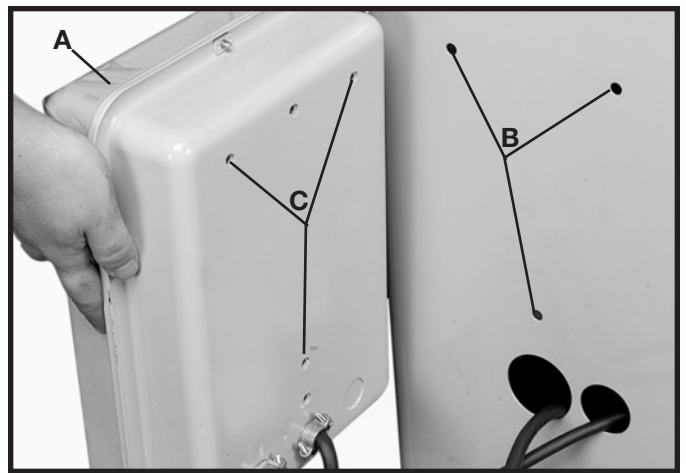

Fig. 7
If you purchased the machine with magnetic push button electrical controls, the saw is shipped with the starter box completely wired to the switch and motor. However, the starter box must be mounted to the saw cabinet. To assemble the starter box (A) Fig. 7, to the saw cabinet, proceed as follows:
1. Place a 1/4" lockwasher then a 1/4" flat washer onto a 1/4-20x1/2" hex head screw. From the inside rear of the saw cabinet, insert the 1/4-20 x 1/2" hex head screw into the hole (B) Fig. 7, in the cabinet. Repeat this process for the two remaining screws.
2. Line up the three tapped holes (C) Fig. 7, in the starter box with the screws and secure the starter box (A), to the saw cabinet.